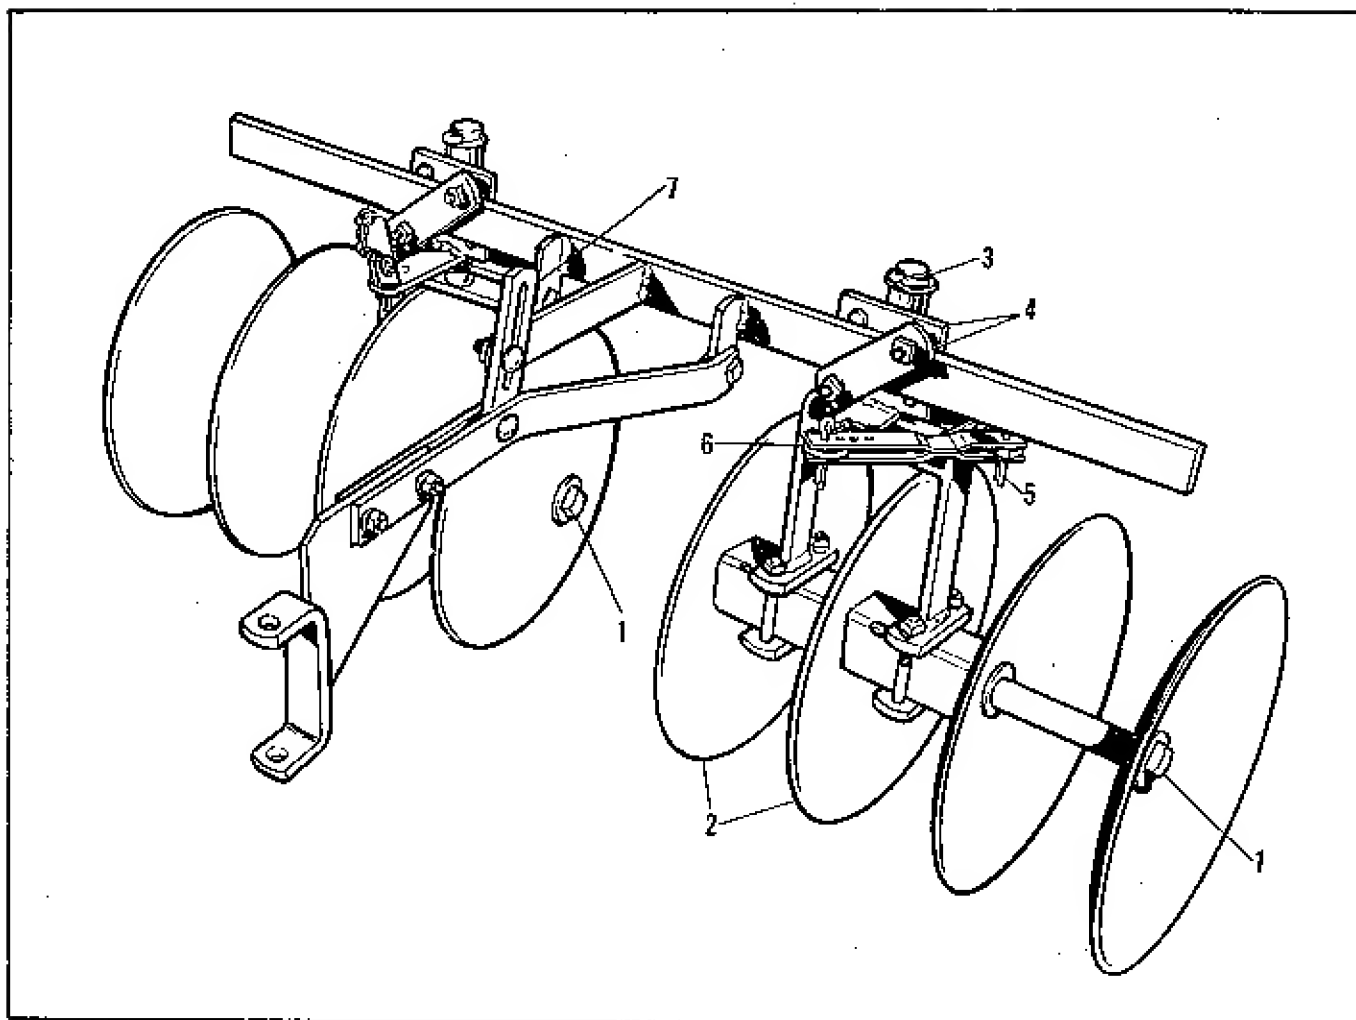

Fig. 1
1. Remove the gang bolts (1) from the frames and assemble the discs (2) into right hand and left hand gangs as shown in figure 1. Insert the gang bolts through the discs and wood bearings and secure in place with nuts and washers.
2. Clamp the disc gangs in place on the tool bar (3) using clamps (4), carriage bolts, hex nuts and lockwashers, as shown in figure 1.